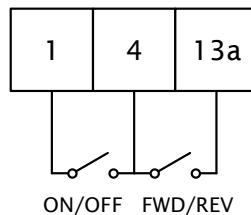

Figure 6.10: Reversing Method 1
- 7. One method to implement a reversing motor is shown in Figure 6.10. Enable reverse rotation by setting parameter P112 *Rotation* to 1 = *Forward and Reverse*, and enable input 13a by setting P121 to *Reverse Rotation*, then wire a SPST Reverse switch between TB-13a and TB 4. Test for correct functioning.